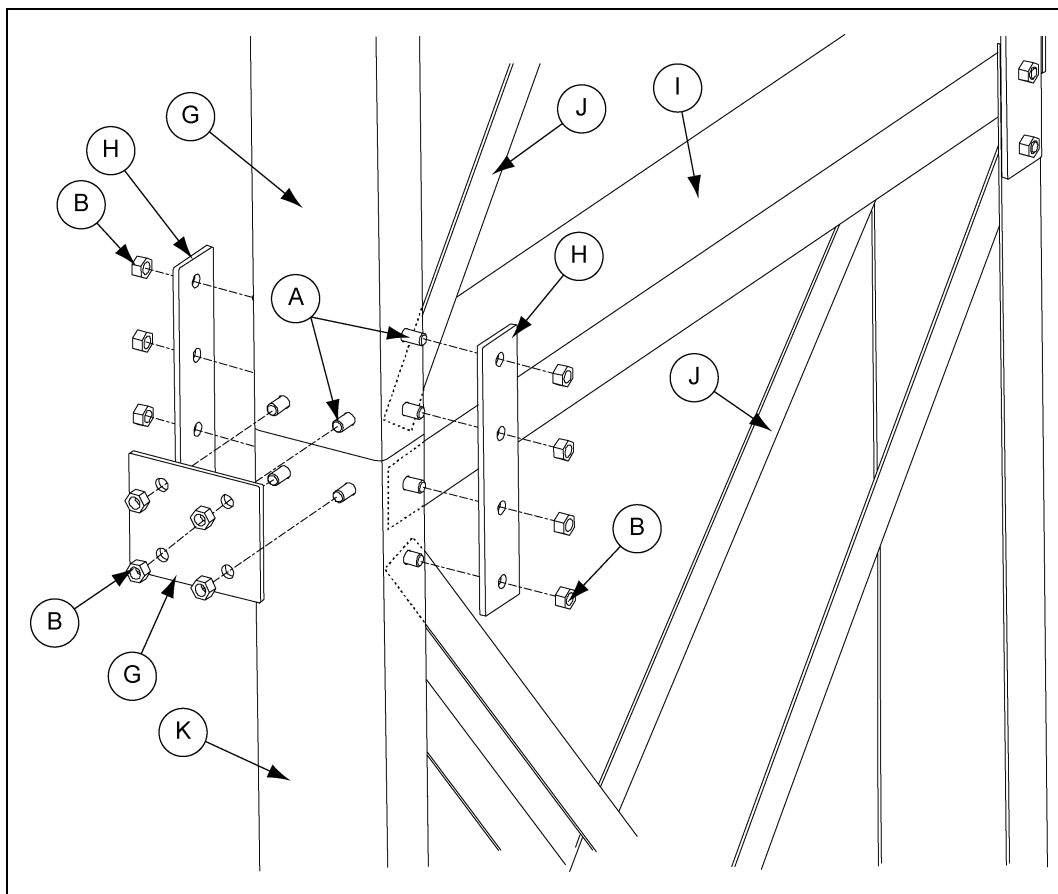

Figure 2P
1. To install diagonal bracing, align columns on top of each other and fasten together using a web plate (**STC00352**), four (4) 1/2" x 1" HHCS bolts and 1/2" hex nuts for each column. **NOTE:** Bolt heads go to inside of column. (See Figure 2P.)
2. Using top hole, attach flange joint plates (**STC00353**) to columns using two (2) 1/2" x 1" HHCS bolts and hex nuts for each column as shown.
3. Attach eight (8) diagonal braces (**STC00351**) to inside of both right and left columns and flange joint plates using eight (8) 1/2" x 1" HHCS bolts and hex nuts. One set of four (4) braces go above “H” channel brace (**STC00350**) and one set goes below. (See Figure 2P.) **NOTE:** Diagonal braces are located on both front and back flanges.
4. Attach “H” channel brace (**STC00350**) to both left and right columns and flange joint plates (**STC00353**) using four (4) 1/2" x 1" HHCS bolts and nuts for each column. (See Figure 2P.)